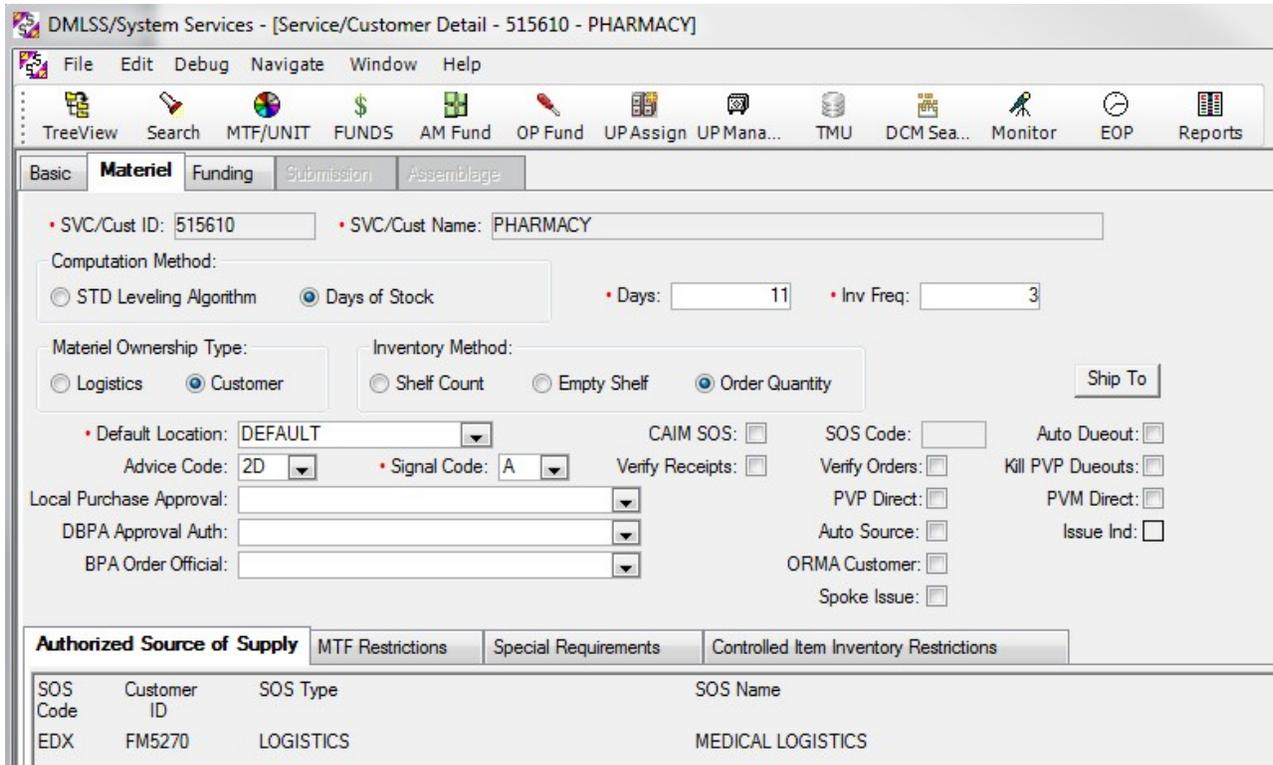

Figure 4. Service/Customer Detail Screen
a. Step 1: Properly Configure the Service/Customer Record. Several fields in the Materiel tab of the Service/Customer Detail Record within System Services, Figure 4, should be verified/reset at the time a new forward logistics area is established including “computation method” and “inventory method”.